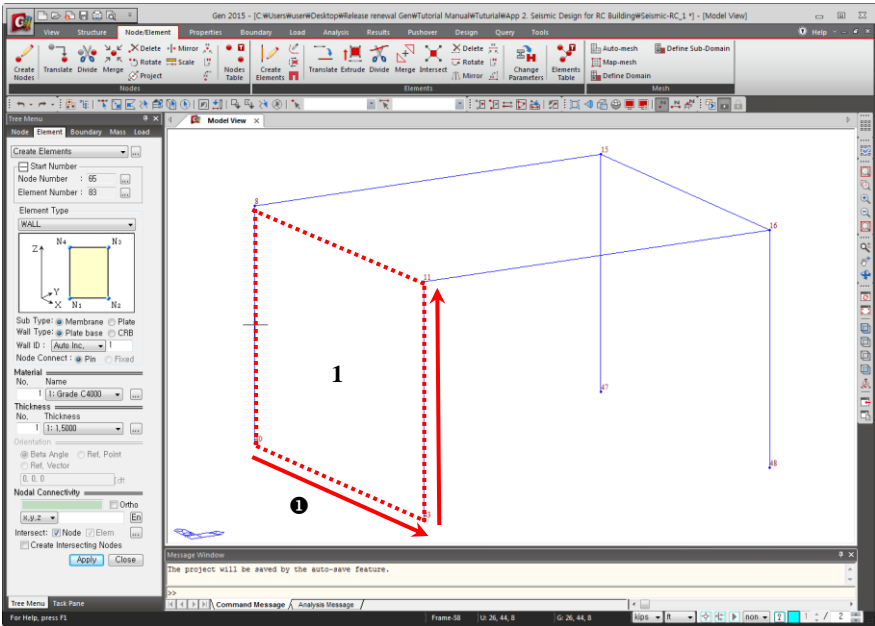

Figure 11 : Nodal Connectivity of Wall Element
- Nodal Connectivity > 50, 42, 10, 18 (Refer  on Figure 11)